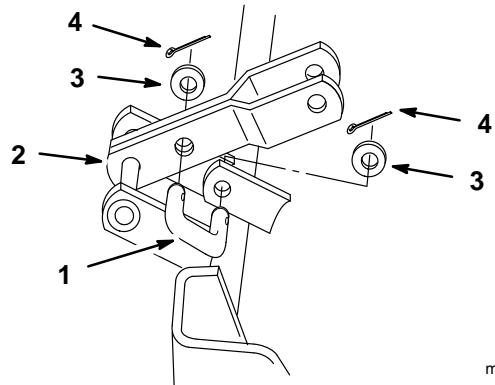

Figure 2
3. Install rear link between mower bracket and carrier lift arm (Fig. 2).
4. Secure with 1/2" washers and 1" (26 mm) cotter pins (Fig. 2).